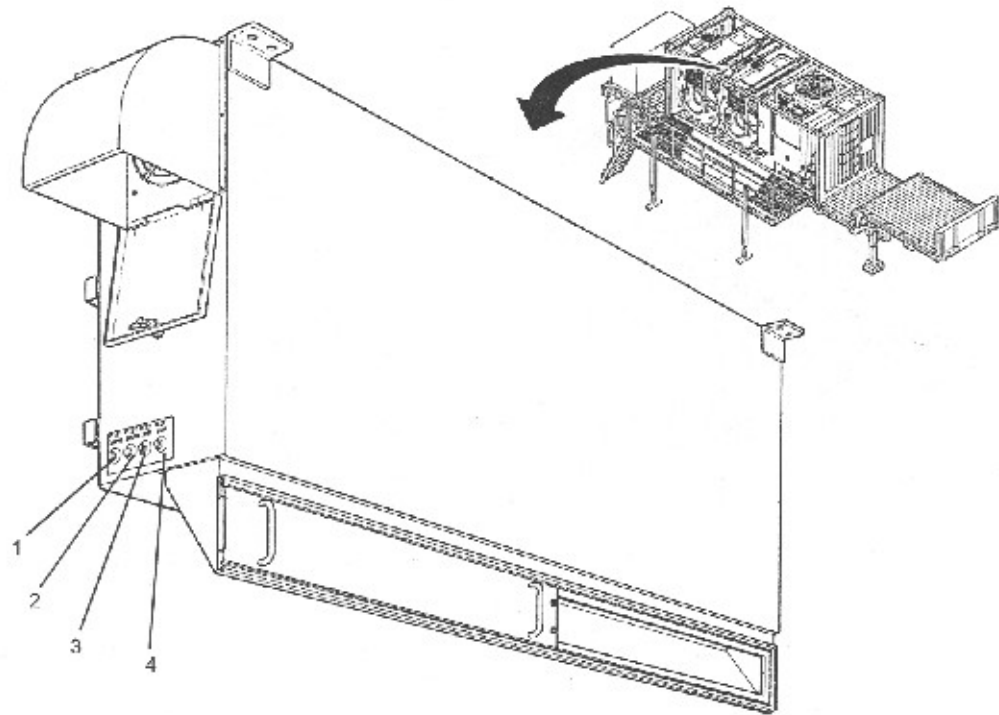

Figure 3-34
- c. INVERTER ENCLOSURE CONTROLS shows the controls found on the inverter enclosure. Below describes the use of these controls. (See Figure 3-34)